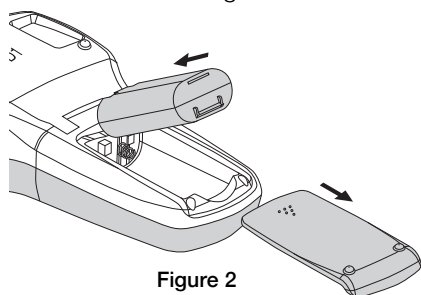

Figure 2
- 1 Slide the battery compartment cover away from the label maker. See Figure 2.